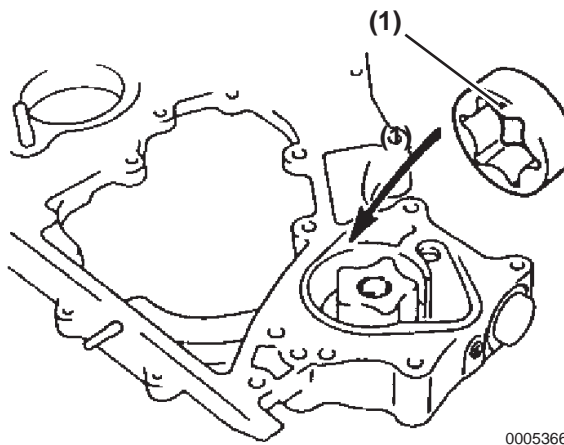

Figure 8-14
3. Install the drive and driven rotors aligning the mark (**Figure 8-14, (1)**).